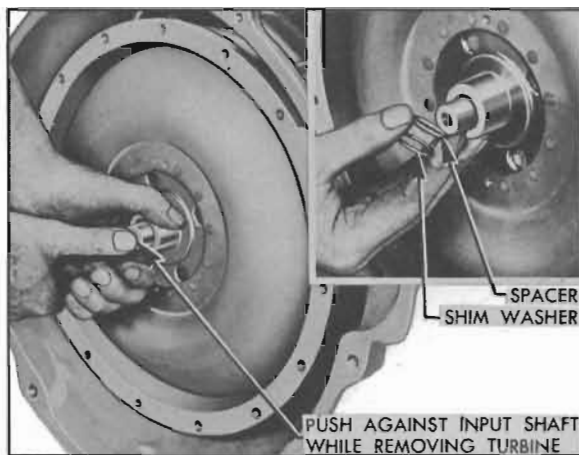

Figure 4-75—Removing Shim Washers, Spacer and Turbine
4. Remove the torque converter spacer and shim washers which may be either on input shaft or in bearing recess of pump cover. Push against end of input shaft to avoid withdrawing this shaft with converter turbine, and remove turbine. See figure 4-75.